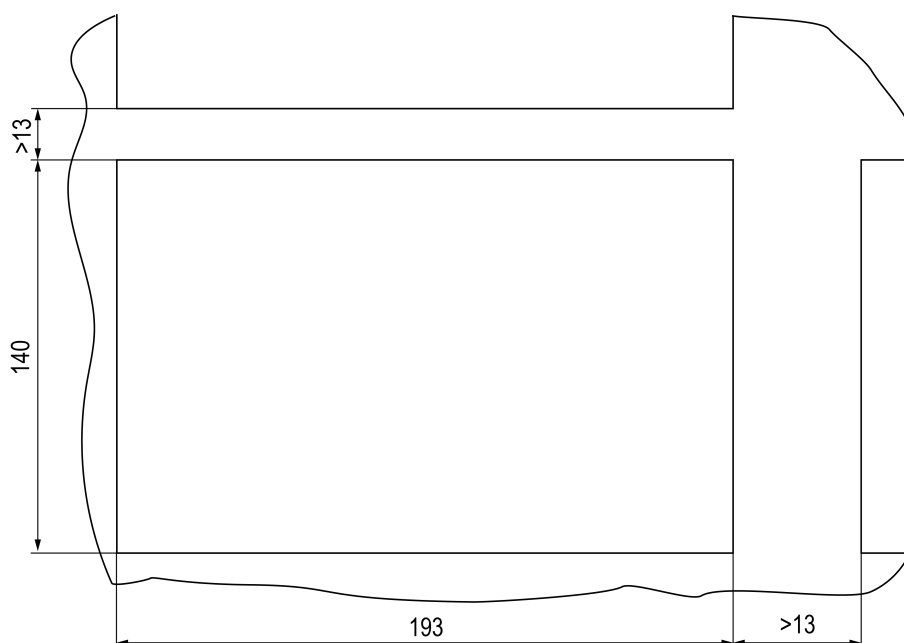
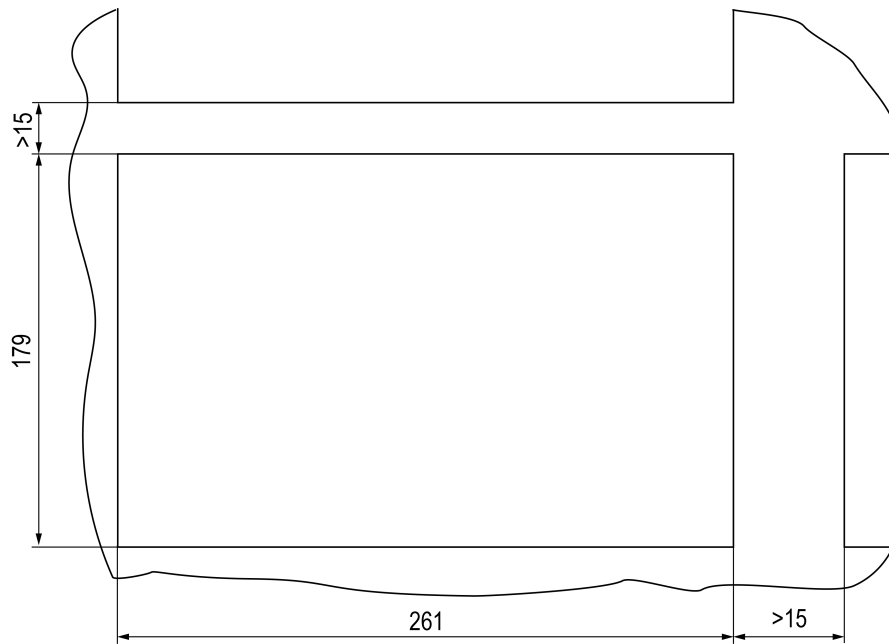

Fig. 4.2 SPC210-07 mounting cutout
Fig. 4.5 SPC210-10 mounting cutout
1. Prepare a cutout in the installation panel (see *Fig. 4.2* or *Fig. 4.5*).